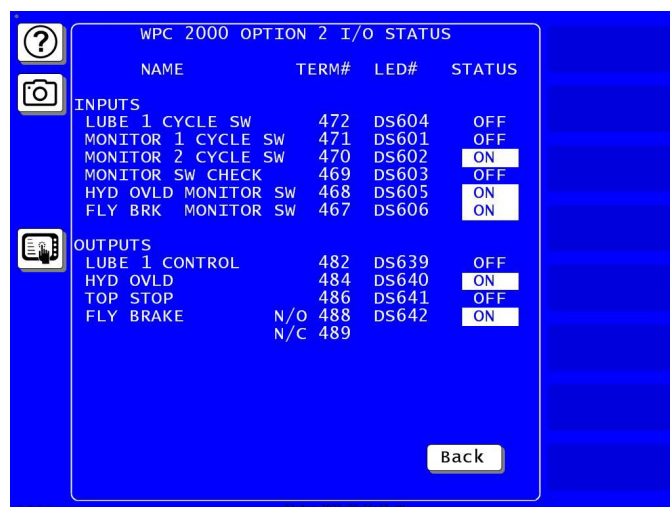

Figure 3-22. WPC 2000 Option 2 I/O Status Screen
Option 2 provides a display (see Figure 3-22, page 60) on which you can view the status of inputs and outputs for hydraulic overload protection, flywheel brake control, lube control (if installed), and top-stop functions. The display allows you to view input/output status while the press is running.
2. Press LUBE CONTROL I/O STATUS. The WPC 2000 Option 2 I/O Status screen, shown in Figure 3-22, displays.